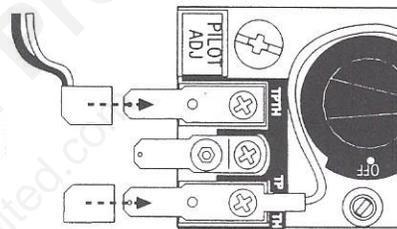

Figure 25. Attach the switch wires to the valve.
2. Attach the female flag connector with the black and white wires to the top terminal (the 'TP/TH' terminal) on the gas control valve. Attach the connector with the red wire to the bottom terminal (the 'TH' terminal). See Figure 25.